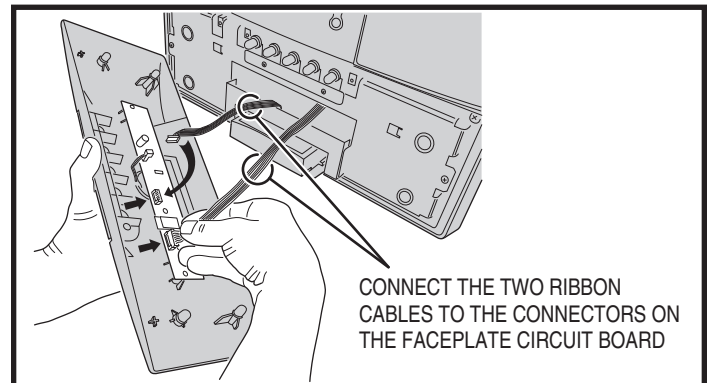

Figure 26. DMCBT Faceplate Connections
12. Connect the two ribbon cables from the Master Station to the connectors on the faceplate's circuit board. The connectors are keyed and will only fit in one direction (see Figure 26).